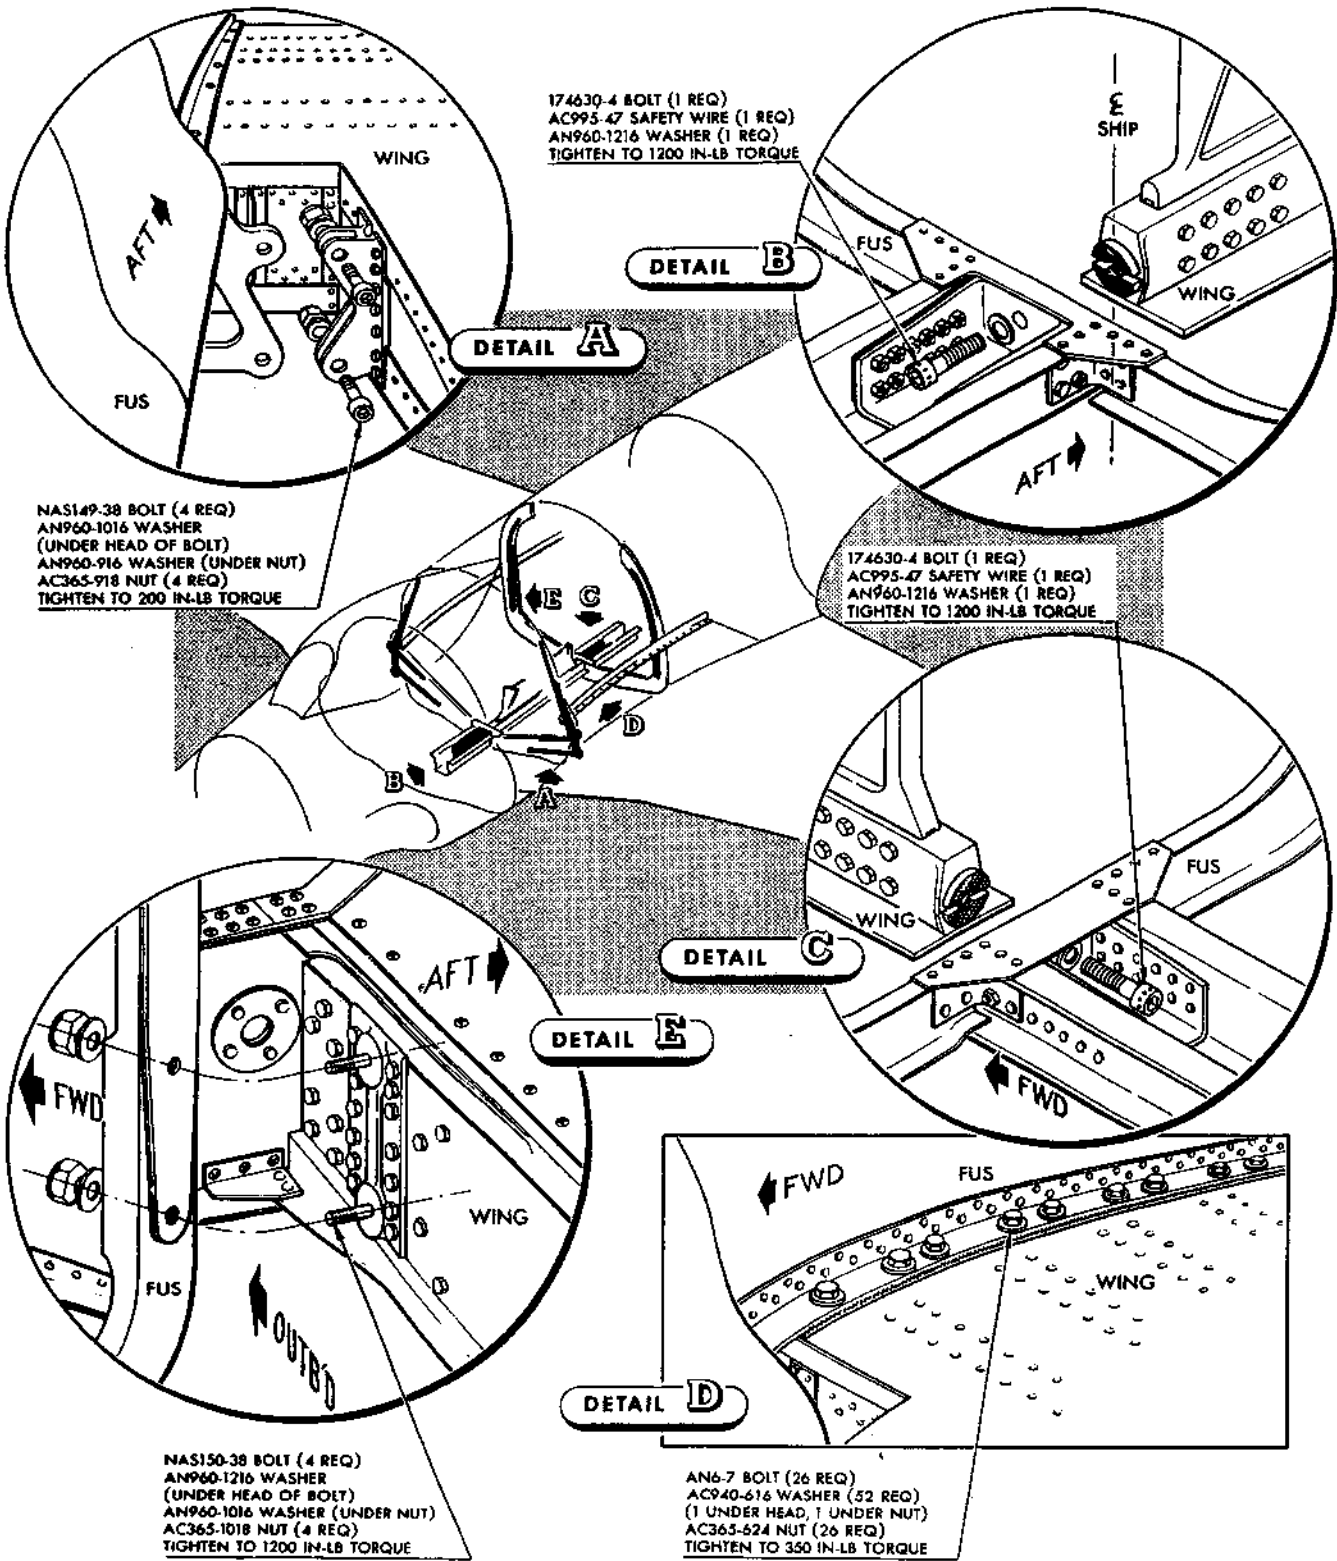

Figure 33 — Wing to Fuselage Attachment
(1) REMOVAL. (See figure 33.)—Special tools required: Two S-37325 wing mating pins, two S-37326 wing mating pins, S-84403 fuselage sling, two S-84704 wing dollies, and S-84706 mid-section storage stand.
(2) INSTALLATION. (See figure 33.) — Special tools required: Two S-37325 and two S-37326 wing mating pins, S-84403 fuselage sling, two S-84704 wing dollies, and S-84706 fuselage and mid-section storage stand.
(b) Use sling No. S-84403 to hoist fuselage nose and mid sections over wing. (See section III, paragraph 2b(3) and figure 9.) Lower fuselage onto wing slowly. Be careful not to damage plumbing fittings on wing front beam. Use two pieces of .012 aluminum sheet approximately 2 x 2 inches, to protect the faces of the lower center attachment from the serrated face of the wing station 0 rib attachment. (See figure 33, details B and C.) Remove the pieces of aluminum sheet when the fuselage is in place. Support the fuselage nose section with a jack. (See section III, paragraph 2d(2) (b).)